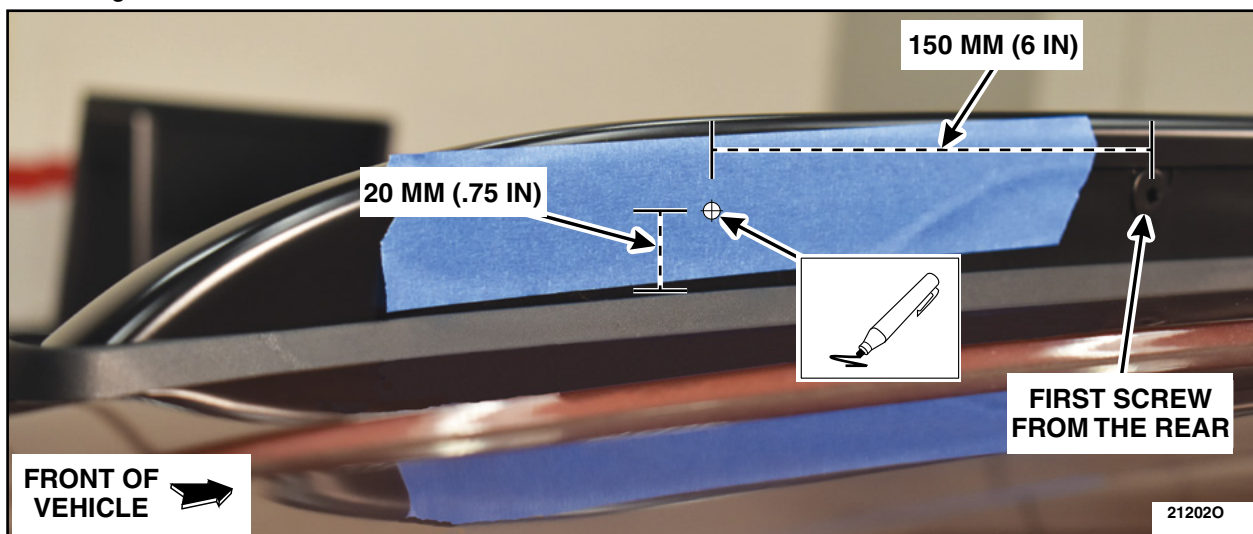

FIGURE 13
2. From the first screw from the rear, measure 150 mm (6 in) from the screw towards the rear of the vehicle and up 20 mm (.75 in) from the top of the roof rail base. Mark the measurement on the tape. See Figure 13.